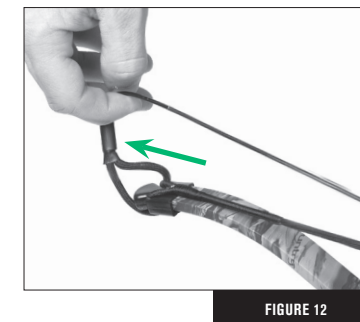

FIGURE 12
8. Remove the stringer from the limb tip. (Fig. 12).